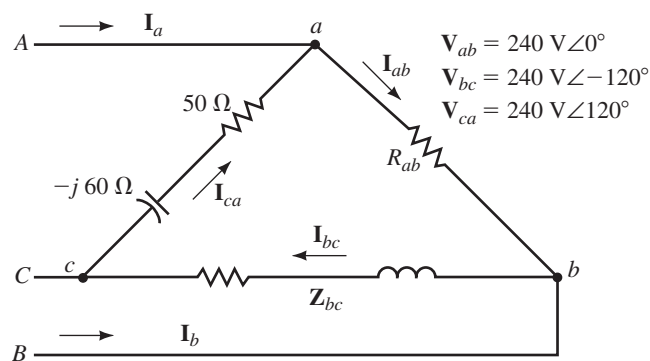

FIGURE 24-58
53. For Figure 24-58, $R_{ab} = 60 \Omega$, $Z_{bc} = 80 \Omega + j60 \Omega$. Compute the following: